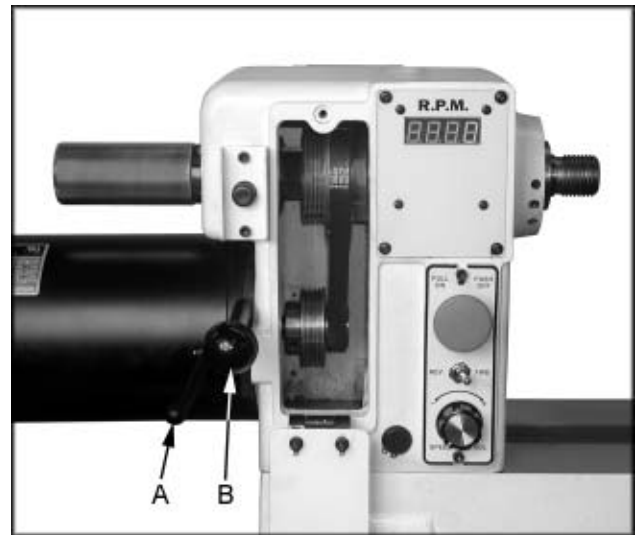

Fig. 11
2. Loosen the locking handle (A, Fig. 11).
3. Lift up on the tensioning handle (B, Fig. 11) to remove tension from the poly v-belt. You can now position the belt in the desired speed range. It is pictured in the low speed pulley range. **Note:** The "High" speed range (0-3200) provides maximum speed, where as the "Low" speed range (0-1200) will provide maximum torque.